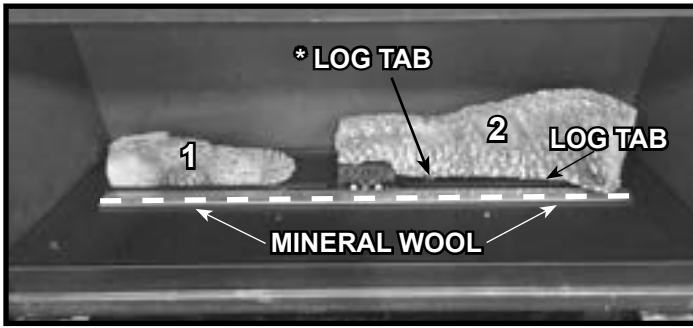

Figure 5. Place Log #2 - Mineral Wool Placement
9. COSMO42-IFT/COSMO42-IFT-B: Install Log #2 by placing the cutout on the left side of the log over pilot shield and pull log forward until it contacts the two log tabs. See Figure 5.
10. Install mineral wool on burner. Mineral wool can be placed the entire length of the burner, but it must only be placed between the front row of ports and the space in front of the burner. The mineral wool should not cover any ports or fall so that it covers the gap behind of the burner. See Figure 5.